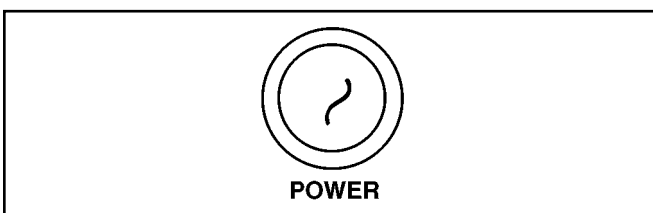

Figure 1-4 Power Lamp
- **Power Lamp.** (Refer to Figure 1-4) Indicates power is applied to the system. Becomes lit when the Power Switch is in its **ON** or **DIM** position.